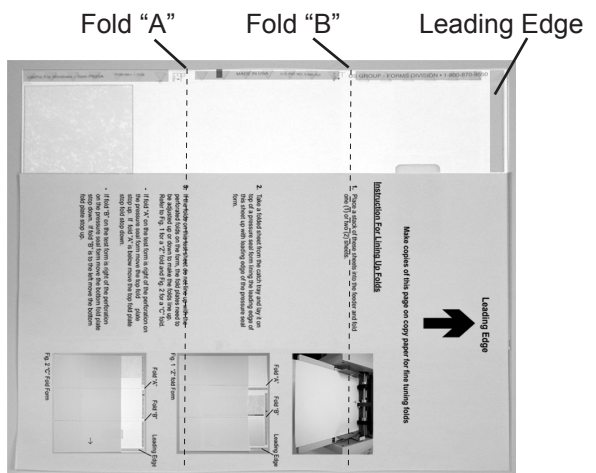

Fig. 2 "C" Fold Form
1. Place a stack of these sheets into the feeder and fold one (1) or two (2) sheets.
3. If the folds on this test sheet do not line up with the perforated folds on the form, the fold plates need to be adjusted up or down to make the folds line up. Refer to Fig. 1 for a "Z" fold and Fig. 2 for a "C" fold.